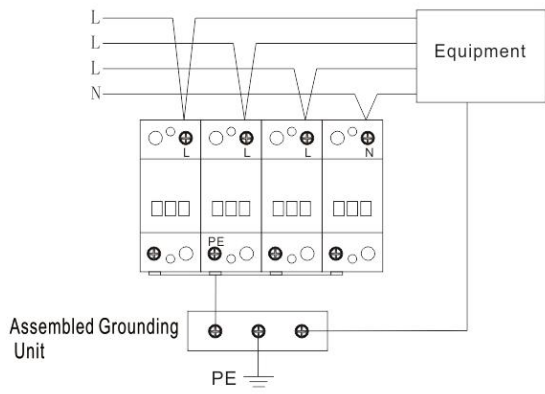

Figure 1: L-PE N-PE protection mode (4P) wiring diagram
4. The wiring method for protection mode L-PE, N-PE (take 4P as an example) is shown in Figure 1, and the wiring method for protection mode LN-PE (take 3+1 as an example) is shown in Figure 2; the product has a remote monitoring and alarm function , the wiring method is shown in Figure 3 , and the product appearance size diagram is shown in Figure 4; the appearance of all products involved in the diagrams shall prevail in kind!